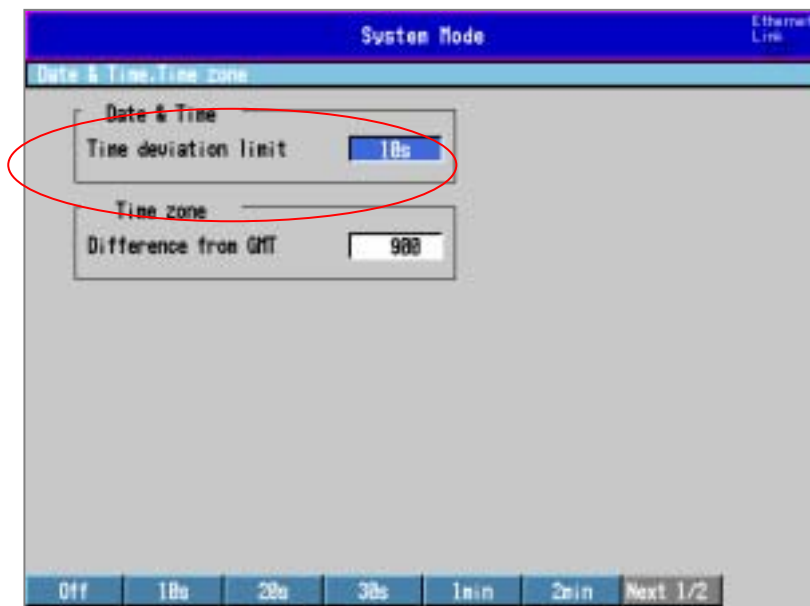

Fig. 3.12.1 Gradual time correction function setup screen
- When selecting [Date & Time, Time zone], the screen shown in Fig. 3.12.1 will appear.